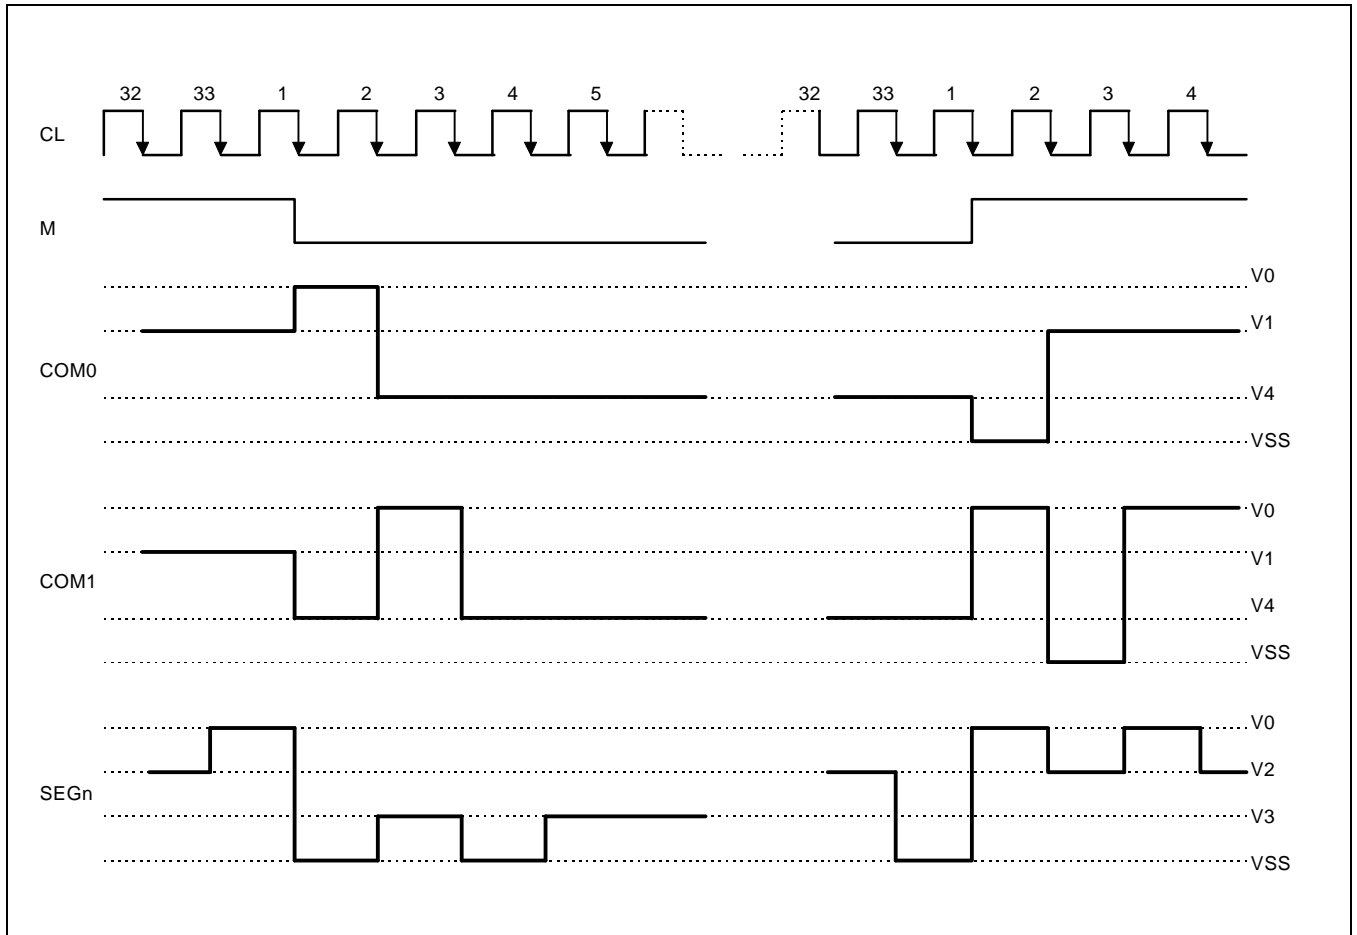

Figure 7. 2-Frame AC Driving Waveform
This circuit generates some signals to be used in the LCD. The display clock (CL) generated by oscillation clock, generates a clock to the line counter and a latch signal to the display data latch. The line address of the on-chip RAM is generated in synchronization with the display clock (CL). While the 100-bit display data is latched by the display data latch circuit in synchronization with the display clock. The display data which is read to the LCD driver is completely independent of the access to the display data RAM from the microprocessor. The display clock generates an LCD AC signal (M) which enables the LCD driver to make an AC drive waveform, and also generates an internal common timing signal and start signal to the common driver. Two-frame AC driver waveforms and the internal timing signal are shown in Figure 7.